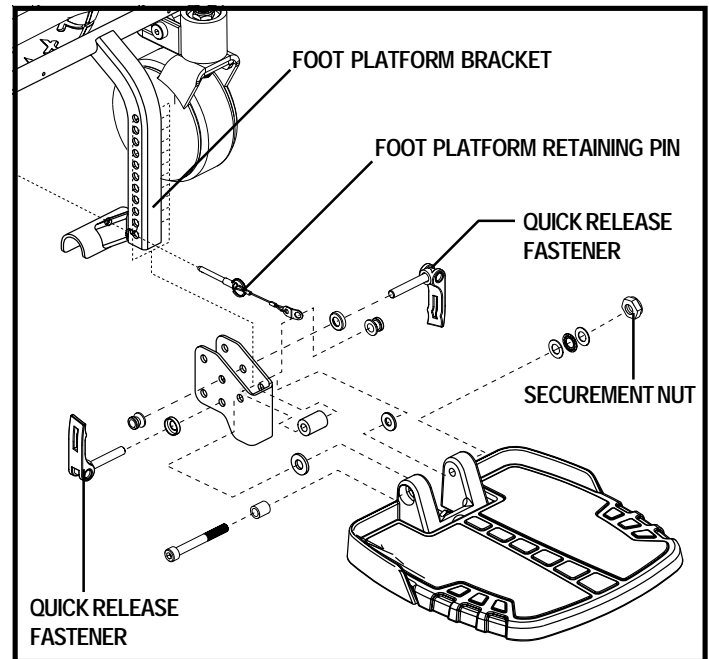
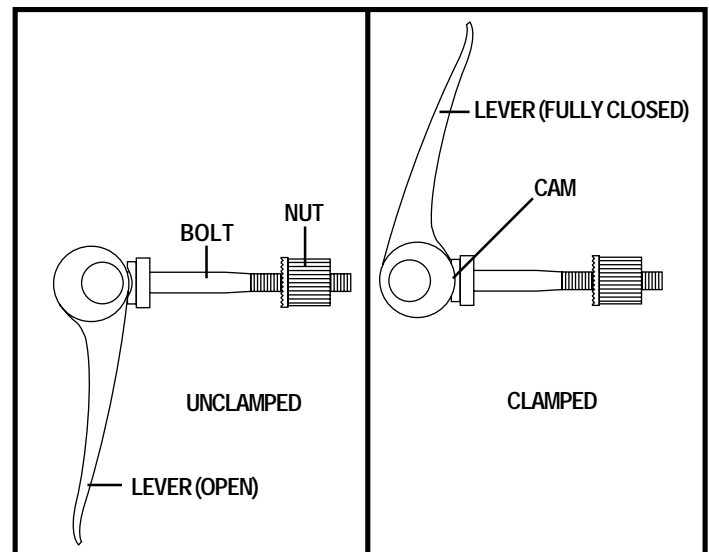

Figure 17. Foot Platform Adjustment
Figure 18. Quick Release Fastener Operation
1. Remove the quick release fasteners from the foot platform bracket. See figure 17.
**Quick Release Fasteners:** The foot platform is attached to the power base with two quick release fasteners. See figure 17. Each quick release fastener consists of a bolt, a lever and a nut. See figure 18. The lever has a cam on the end that allows it to clamp into place. The quick release fastener has two states: clamped and unclamped. When the lever is open, the quick release fastener is unclamped. When the lever is closed, the quick release fastener is clamped.